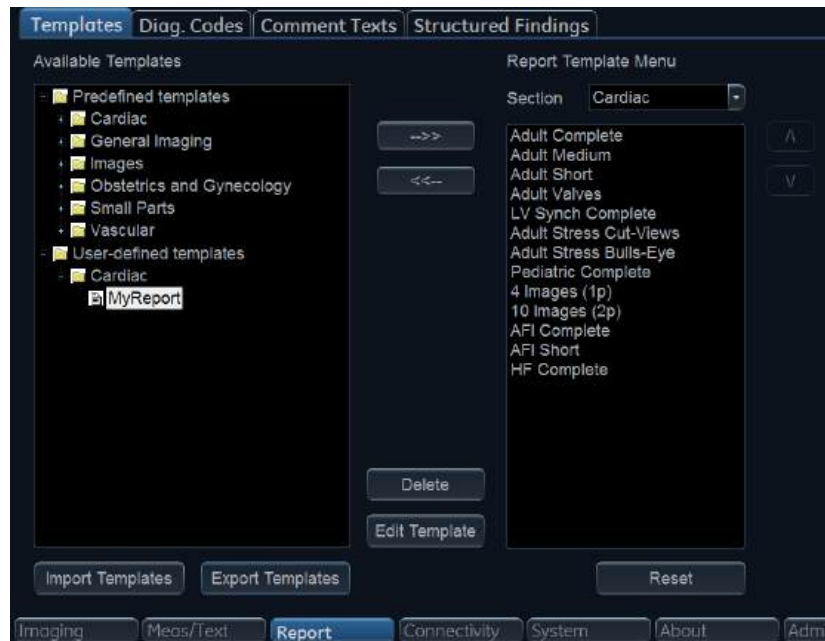

Figure 11-27. The Report templates sheet
1. Press **Utility/Config** on the Touch panel and select **Report**. The *Report templates* sheet is displayed (Figure 11-27)
1. In the *Available templates* field (left field), select the report to delete (Figure 11-27).
The *Report templates* sheet is displayed (Figure 11-27 on page 11-44).